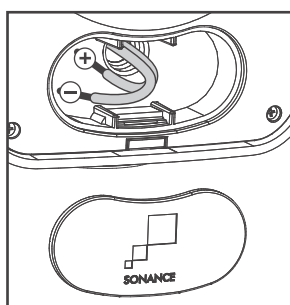

FIGURE 9:
- Insert the wires into the connector holes (see figure 9).